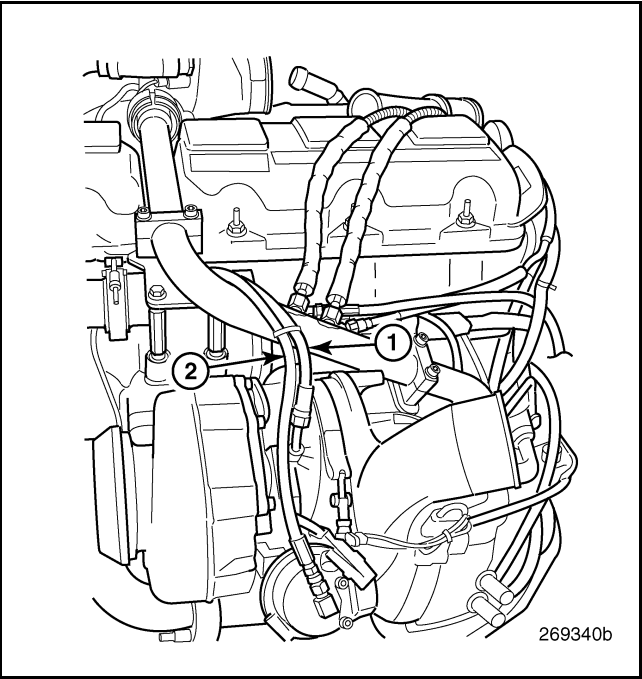

Figure 134 — Oil Supply and Air Lines
1. Disconnect the turbocharger oil supply line and the air line to the VTG actuator at the turbocharger (Figure 134). Plug the fittings to keep dirt and debris out.